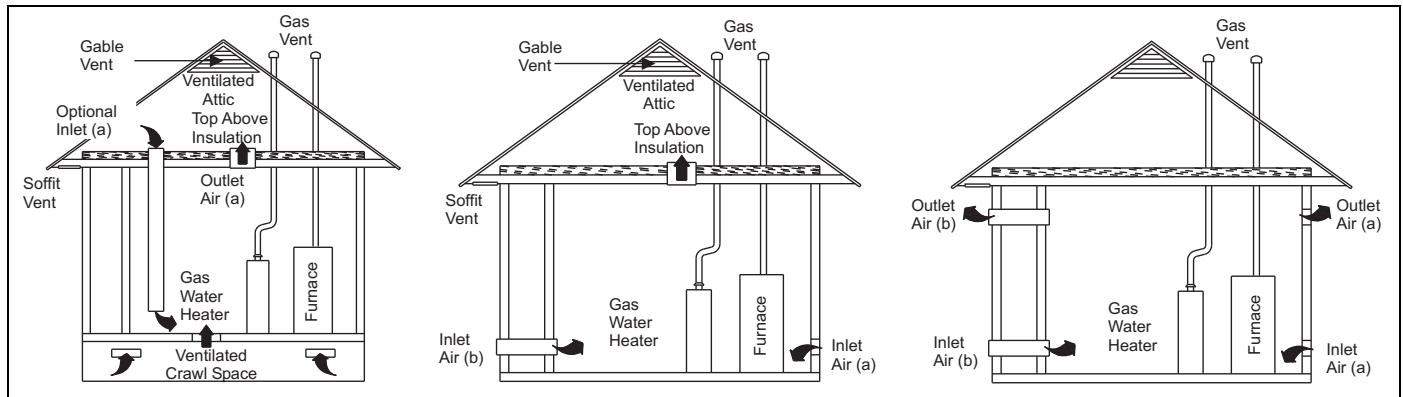

FIGURE 37: Outside and Ambient Combustion Air
3. **VENTILATED COMBUSTION AIR:** Combustion air is supplied through a PVC or ABS pipe that is connected to the PVC coupling attached to the burner box and is terminated in a ventilated attic or crawl space. The combustion air and the vent pipes are not terminated in the same atmospheric zone. Refer to Figure 37 for attic and crawl space termination. Only the combustion air intake may terminate in the attic. The vent must terminate outside.